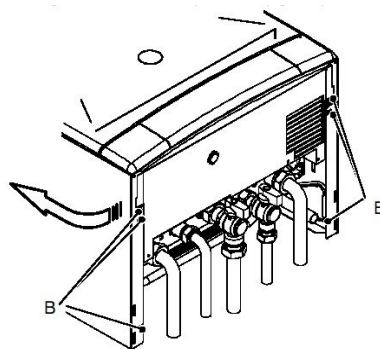

Fig. 8.60
3. Loosen the screws B. Bring the bottom of the panels away from the boiler and lift them, freeing them from the top hooks (Fig. 8.60).